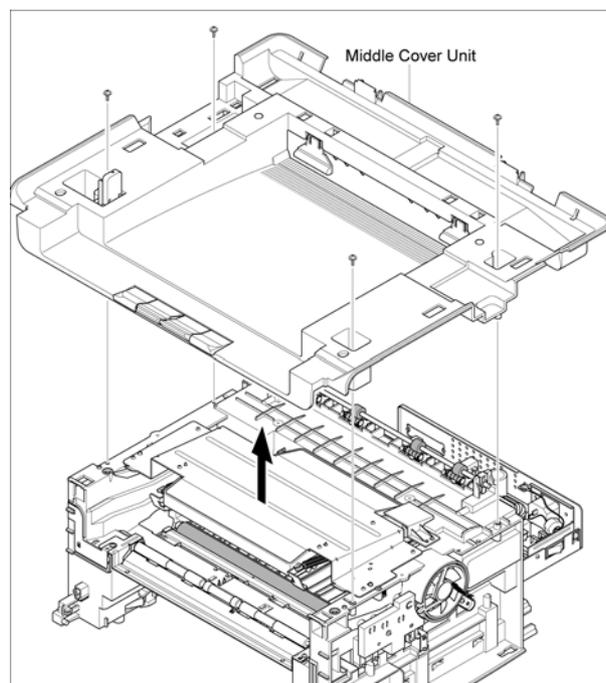

Figure 1
2. Remove 4 screws, then the Middle Cover Unit, Figure 1.